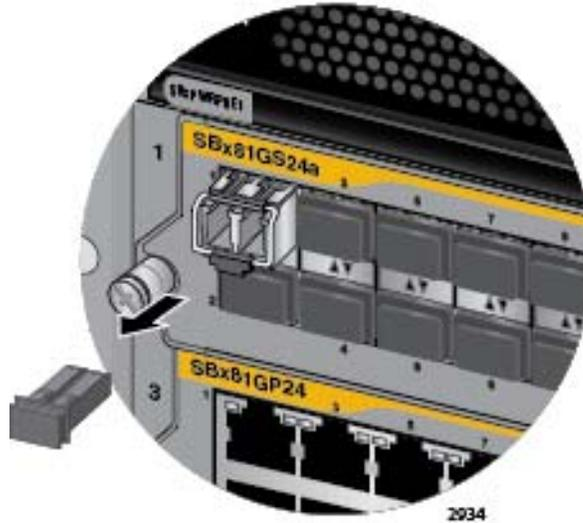

Figure 97. Removing the Dust Cover from a Transceiver
4. Remove the protective cover from the transceiver. Refer to Figure 97 on page 161.